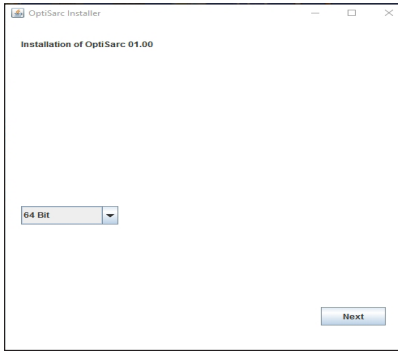

Fig. 4–Choose 32-bit or 64-bit, based on your Operating System.
2. Choose 32-Bit or 64-Bit from the drop down list, based on the operating system of your computer. Click **Next**. The Camera Installer appears (Fig. 4).